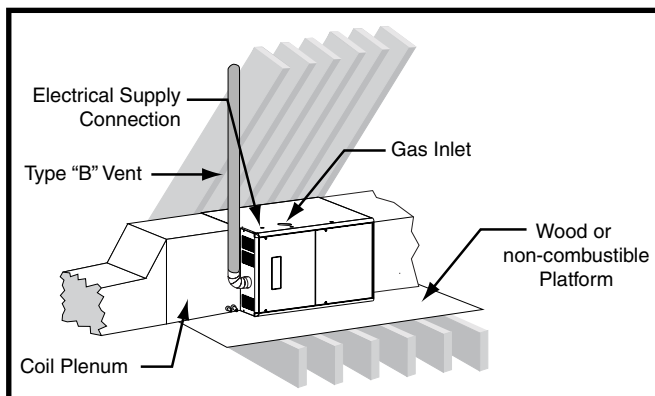
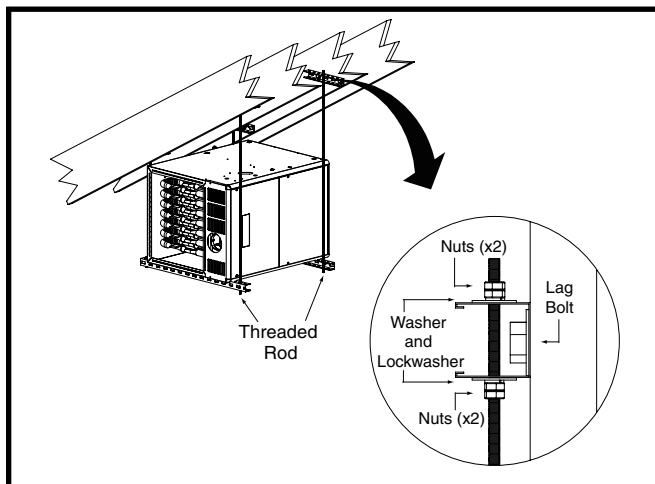

Figure 7. *SA Horizontal Installed on a Platform
Figure 8. *SA Horizontally Suspended in Attic
- The *SA series gas furnace can be installed horizontally (Figure 7) in an attic, basement, crawl space or alcove. It can also be suspended from a ceiling in a basement or utility room in either a right to left airflow or left to right airflow as shown in Figure 8, \(page 12\).
- If installing the furnace with an evaporator coil (in an attic), it is required that a drip pan be placed under the furnace. If the installation is on a combustible platform (Figure 7), it is recommended that the drip pan extend at least 12 inches past the top and front of the furnace. **NOTE:** Although it is not required to use a drip pan for heat only applications, state and local codes may require it.
- If suspending the furnace from the ceiling, assemble a support frame (Figure 8) using slotted iron channel and full